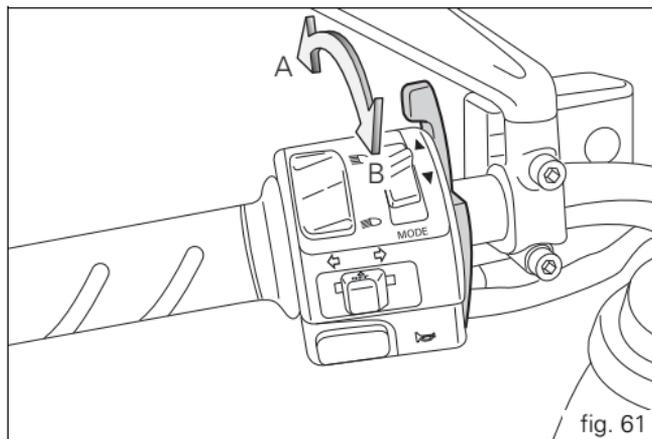

fig. 61
- 2) Shift the cold-start lever to position (B, fig. 61).
- 3) Check that the stop switch (2)  is positioned to (RUN), then press the starter button (3).